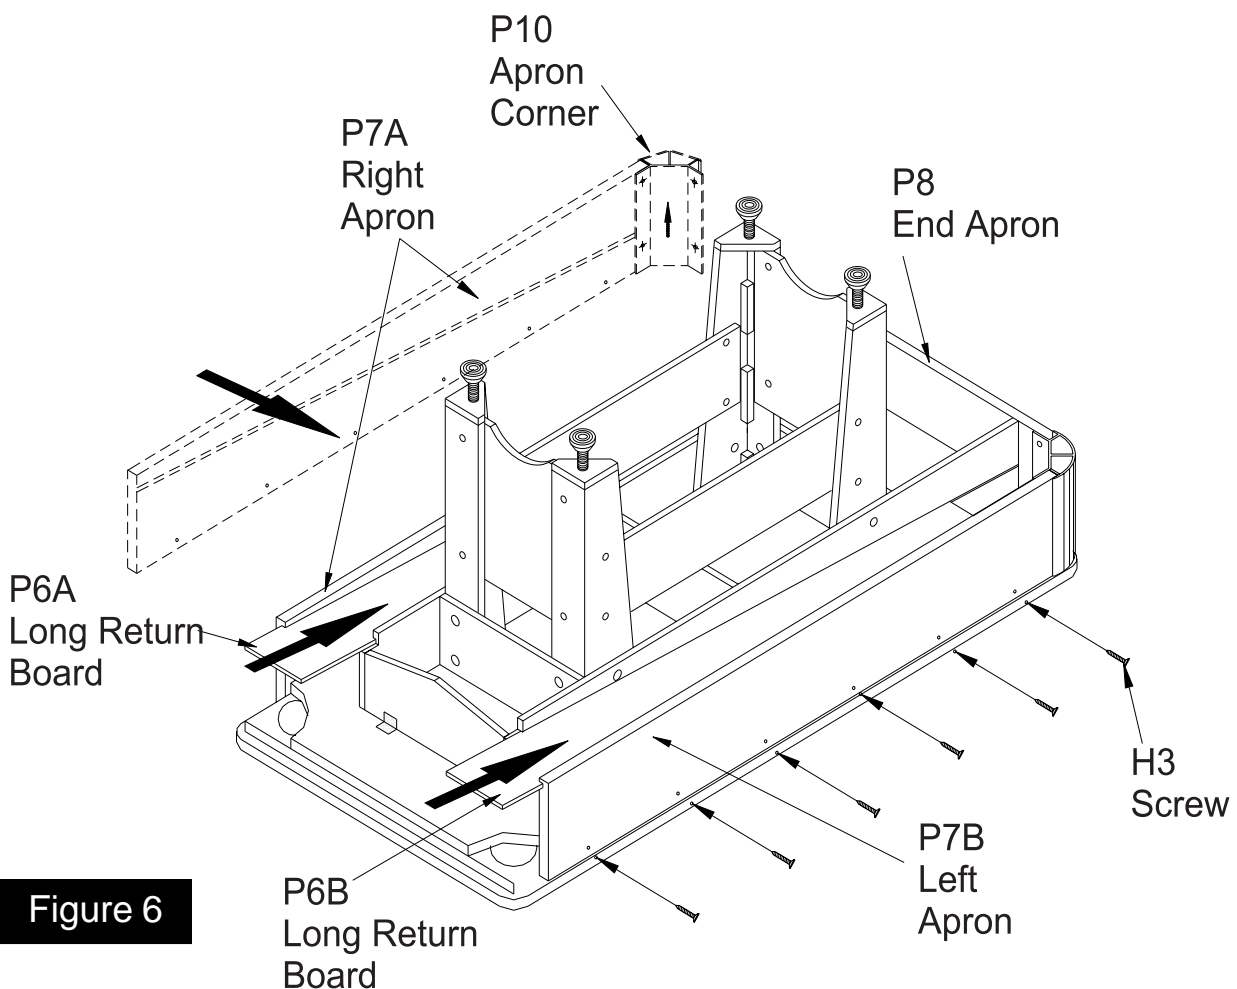

Figure 6
11. Position the apron side panels **P7A** and **P7B** on the main cabinet **P1** as shown in **FIGURE 6**. The panels are positioned correctly when the apron corners **P10** rest inside the corner caps that are attached to the main cabinet. Once you have the side panels placed correctly, attach them to the main cabinet using screws **H3** as shown in **Figure 6**.
12. Slide the apron end panel **P8** into each apron corner **P10** and attach to apron corners using screws **H4**. Next attach the apron end panel to the main cabinet **P1** using screws **H3** as shown in **FIGURE 6**.